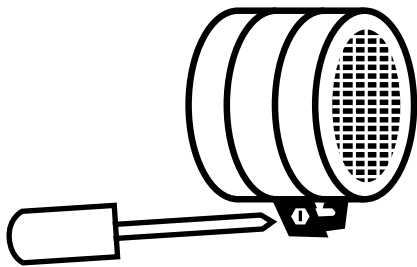

Figure 20: Remove spark arrestor
5. Loosen the clamp holding the spark arrestor onto the muffler with a screw driver (see Figure 20).